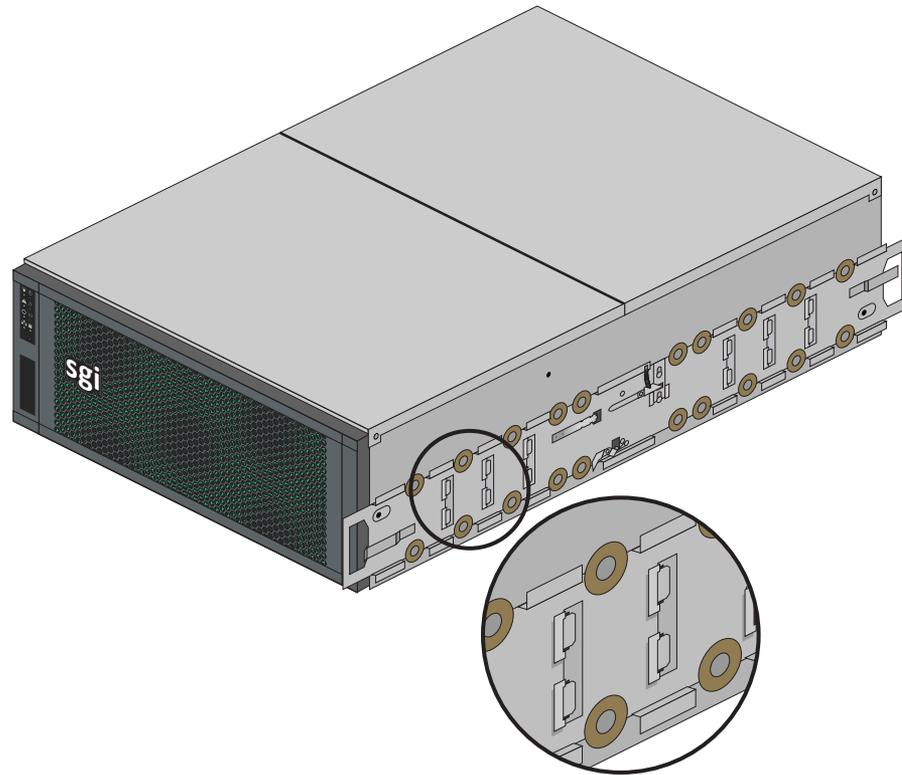

Figure 2-9 Lock on to Support Tabs
3. Slide the rolling rail beneath the support tabs on the side of the chassis until it locks firmly into place (see Figure 2-9 on page 21).